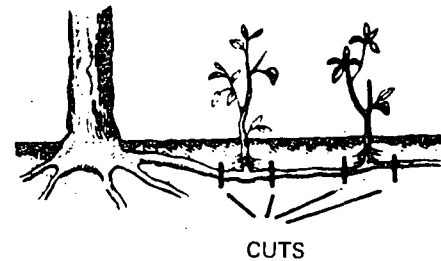

Fig. 5
*Shoots*, plantlets which grow on the leaves or roots and when separated from them, develop into identical plants (Fig. 5).